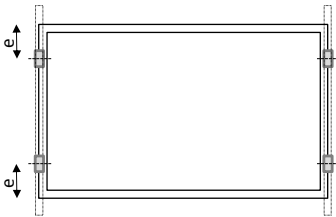

Fig. A2: Clipping position on short frames
**Table.A2 Design load by clipping on short frames (see Fig. A2)**
**Table.A2-1 Test load by clipping on short frames (see Fig. A2)**